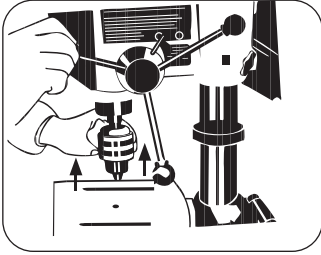

FIGURE 8.7
- Fit the spindle with the chuck, by pressing upwards so that the chuck couples with the spindle (Figure 8.7).